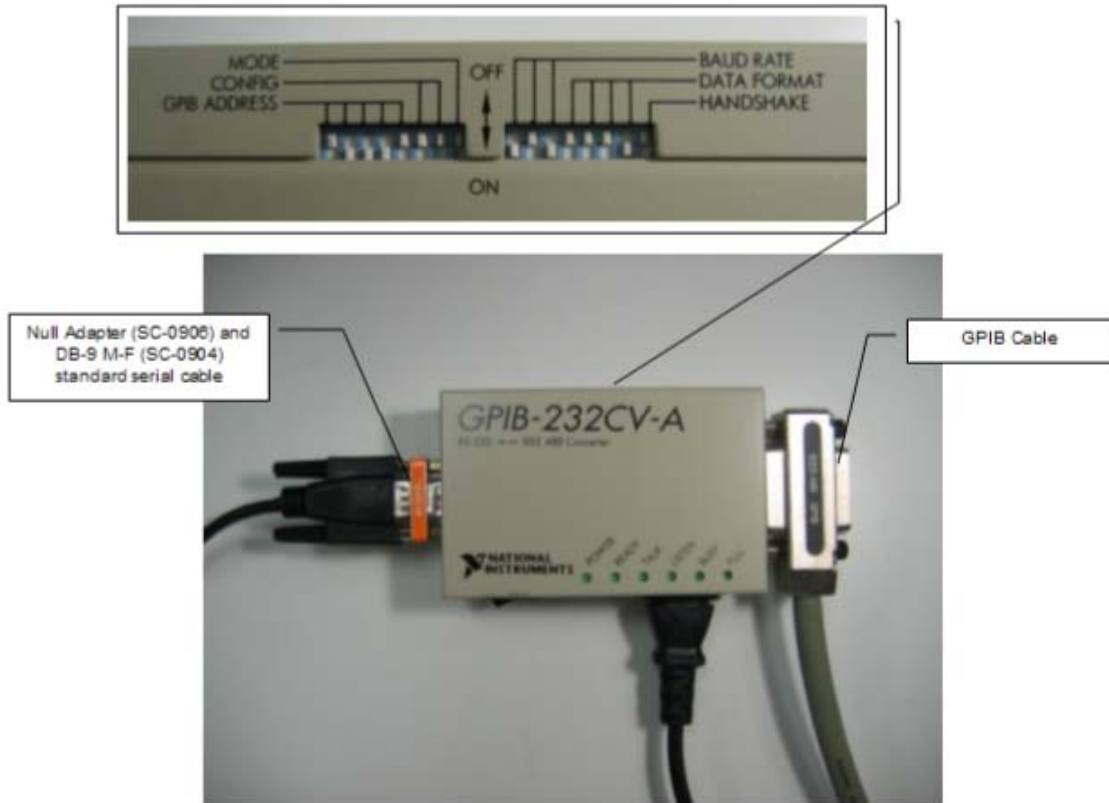

Figure 29: Dip Switch Settings to connect GPIB 232CV-A to DB9 on host computer.
- 2) Remove the existing serial cable and replace with Null adapter (SC-0906) and DB9 M/F Serial Cable (SC-0904). See Figure 29: Dip Switch Settings to connect GPIB 232CV-A to DB9 on host computer.